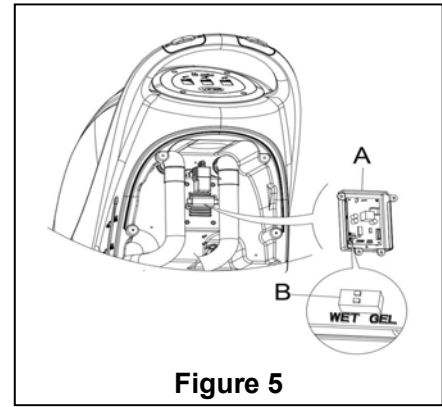

Figure 5
2. Take off draining hose (15).
4. Take off the control cover (5), and the screws of the battery cover (10). Remove the screws on the PCB stand. The DIP switch (B) for setting the battery model can be seen when flipping over the PCB board. (See Figure 5)
5. Adjust the micro DIP switch (B) to the position of “WET”.